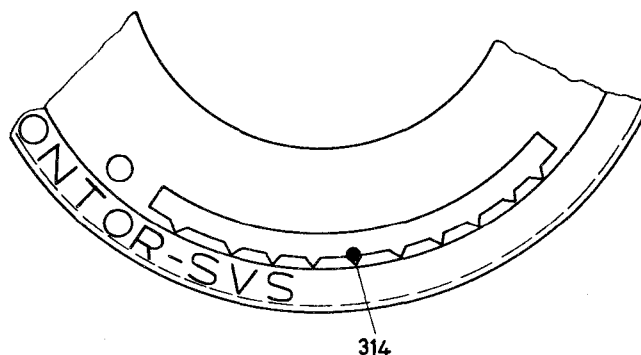

Fig. 37
6. All shutter speed setting rings are arranged to be caught in the positions corresponding to the indicated shutter speeds. For this purpose, the shutter speed setting rings have a set of detent notches which cooperate with the rivet 314 of detent lever 00375-U543 (see Fig. 37 below and Sheet 63 (Selftimer and Flash Synchronizer)).